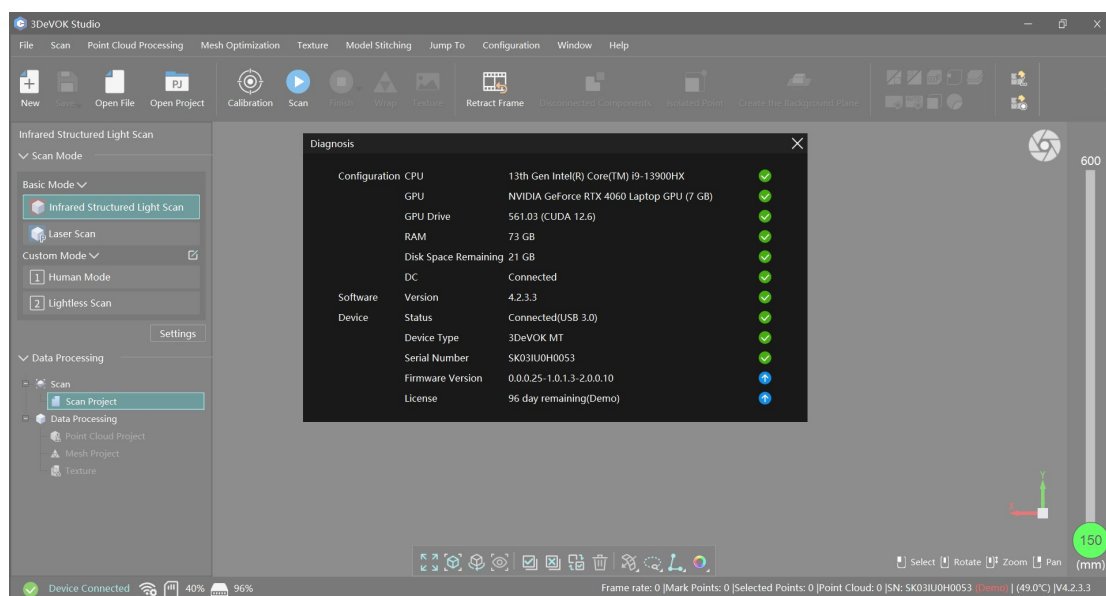

Figure 5-4 Check the Firmware Version
1. Check the "Firmware Version" section. For V4.2.3.3, ensure the parameters are configured as 0.0.0.25-1.0.1.5-2.0.0.10. Otherwise, click the  button to import the update files, which is shown in Figure 5-4.